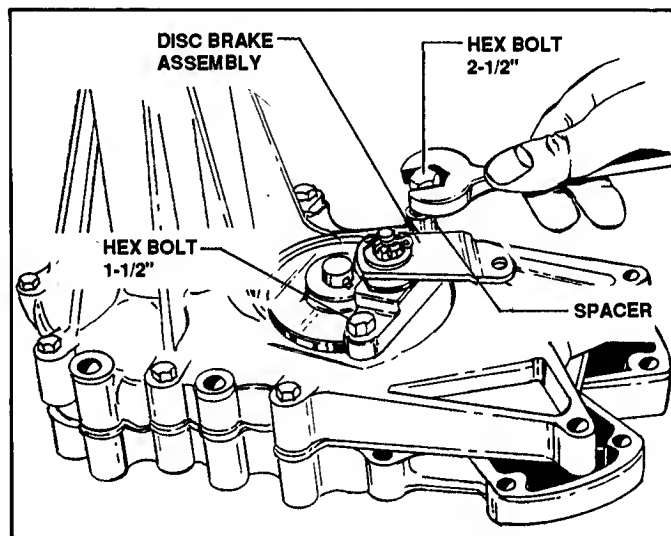

FIGURE 10.6
2. Remove the remaining bolt from the Brake Yoke Assembly. See Figure 10.6.